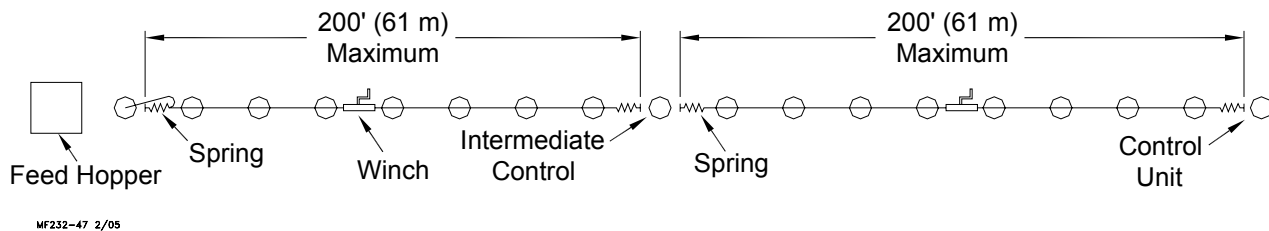
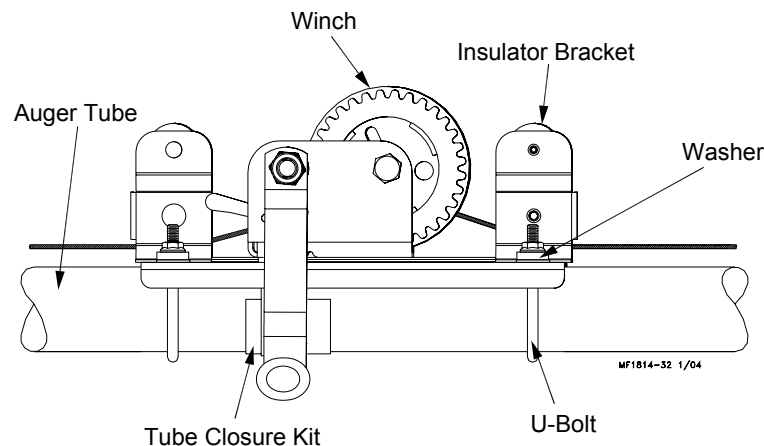
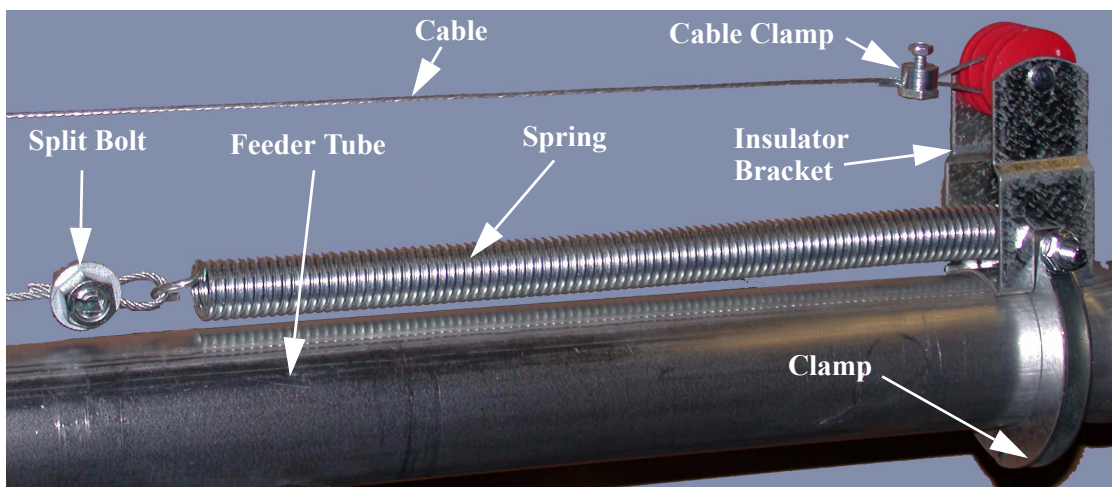

Figure 39. Installation of the Winch Adjustable Feed Level Tube System
Figure 40. Winch Installation
Figure 41. Spring and Insulator Bracket Installation
The Feed Level Tubes are adjusted using a winch and cable. The maximum line length for each winch is 200' (61 m). The winch should be located in the middle of the line of feeders it is to adjust, **see figure 39**.
1. Use two U-bolts provided to fasten the winch to the feeder line tube, **see figure 40**. The winch should be placed in the center of the line of Feed Level Tubes it will adjust, as shown in **Figure 39**. **THE LINE LENGTH MUST NOT EXCEED 200 FEET (61 M).**
2. Anchor spring to clamp on each side of the winch, **see figure 41**. Attach the Tube Clamp/Spring assemblies to the feeder line tube at a maximum distance of 100 feet (30 m) from the winch, **see figure 39**.
5. Loop the cable around the end of the spring and secure with a split bolt cable clamp, see figure 41.